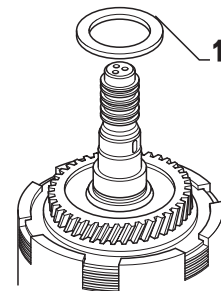

FIG. 1-3a
Position shaft assembly on suitable holding fixture. Using a tube with a bore dia. of 35 mm/1.38 in and a plastic hammer gently drive thrust washer in position. (item 1 Fig. 1-3a)